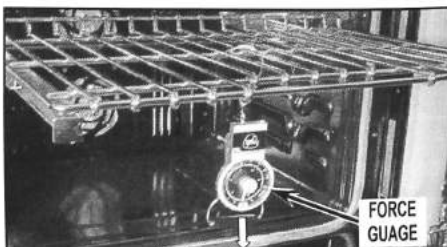

FIGURE 8
17. Attach force gauge hook on the center/middle of roll-out rack in full open position. Center of the rack is 8 lines over from the side. See Figure 8.
18. Pull the gauge straight down without touching the rack until the gauge reaches the 33 lbs (14.97 kgs) set point to verify the rack does not become disengaged. See Figure 8.